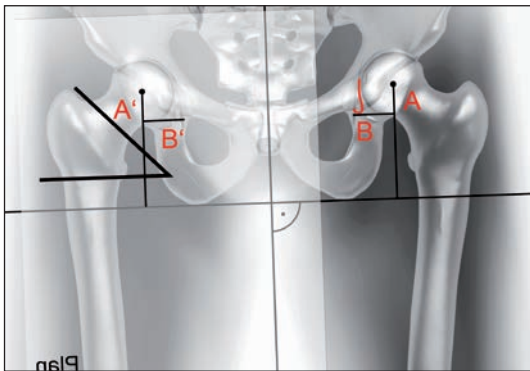

Fig. 2
- Transfer the centre of rotation to the affected side by drawing in the lines A' and B' (Fig. 2)